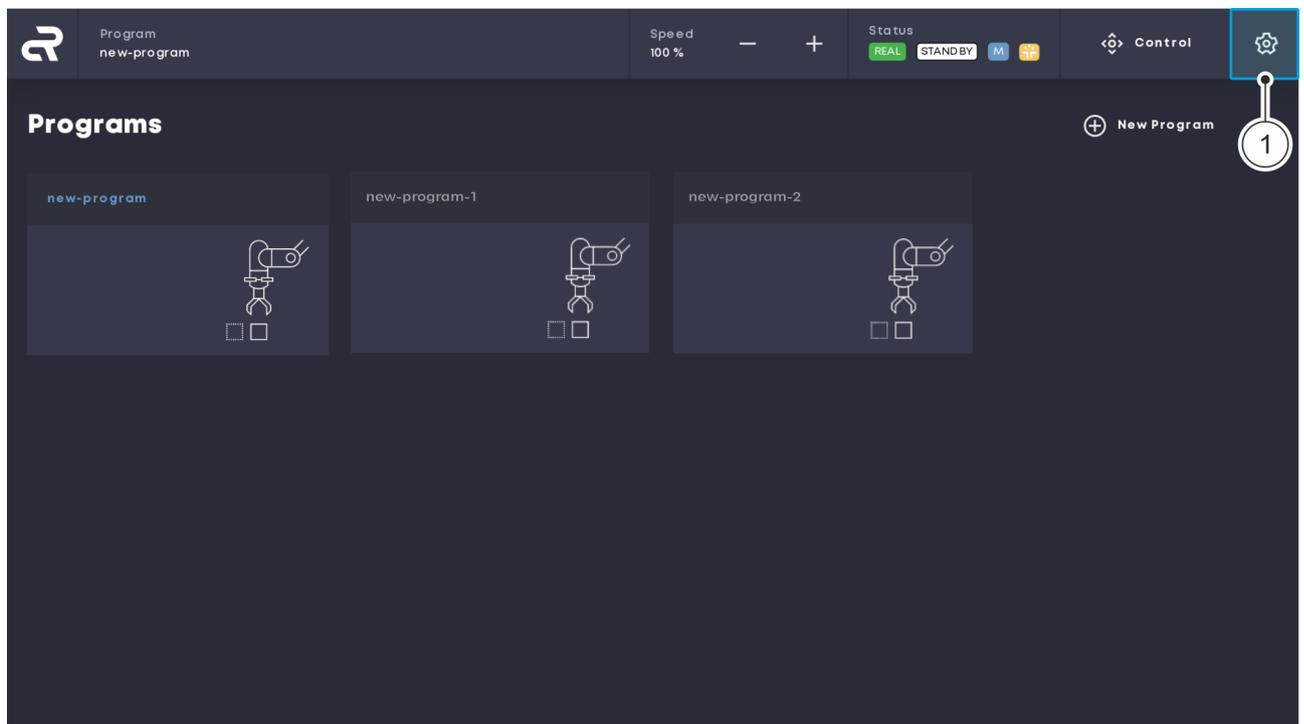

Fig. 12 Opening the ‘Settings’ menu
02. In the 'Settings' menu, click the 'Safety' button Fig. 12 / ① on the left-hand tab to open the Safety configuration window Fig. 12 / ②.
03. Click the 'Edit' button to change the parameters of the safety configuration Fig. 12 / ③.